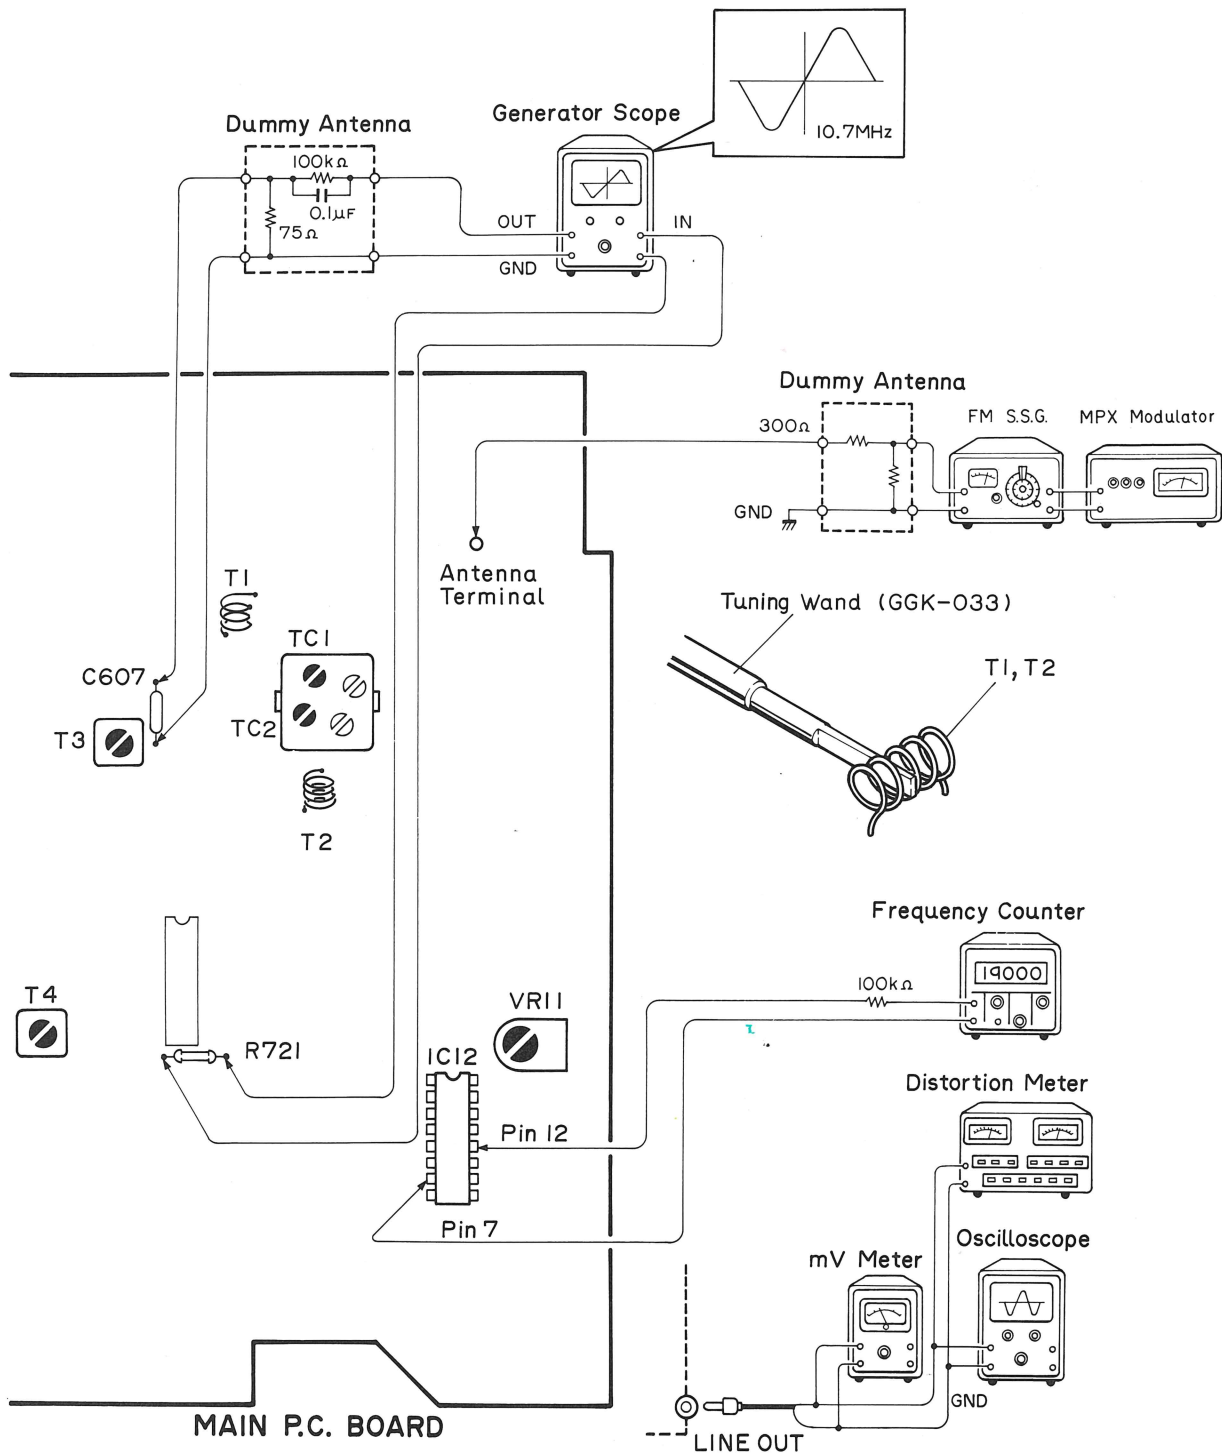

Fig. 40
● **Connection Diagram (Shown in Fig. 40)**
● **Connection Diagram (Shwon in Fig. 40)**
- **Connection Diagram (Shown in Fig. 40)**
- **Connection Diagram (Shwon in Fig. 40)**